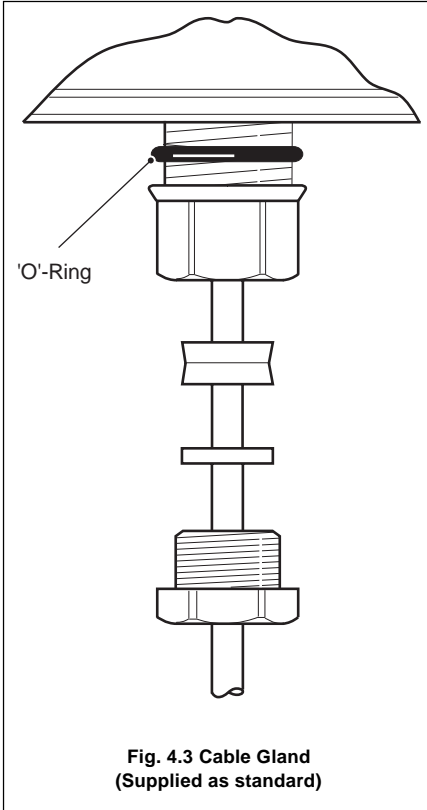

Fig. 4.3 Cable Gland (Supplied as standard)
4.4.1 Cable (IEC – 20mm) – Fig. 4.3